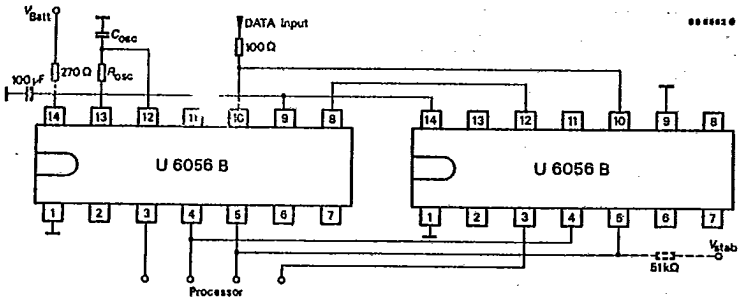

Fig. 15
- CLK and DOUT are parallel-connected in each case. Each shift register can be read out individually by a separate P/S line. Fig. 15.